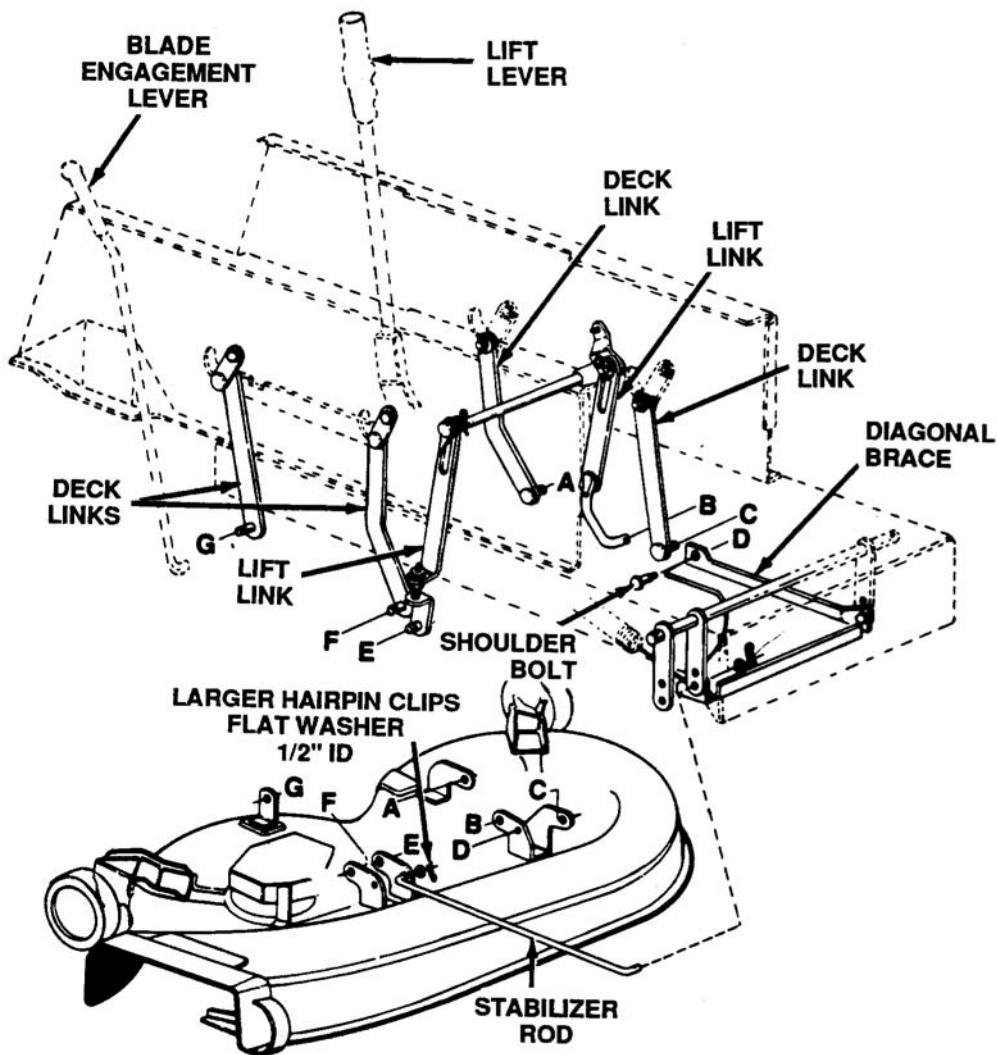

Figure 8-4. Location of Diagonal Brace
9. Attach diagonal brace to the deck as shown using shoulder bolt, 3/8 inch lock washer and hex nut. Be certain shoulder bolt is through diagonal brace. See Figure 8-4.